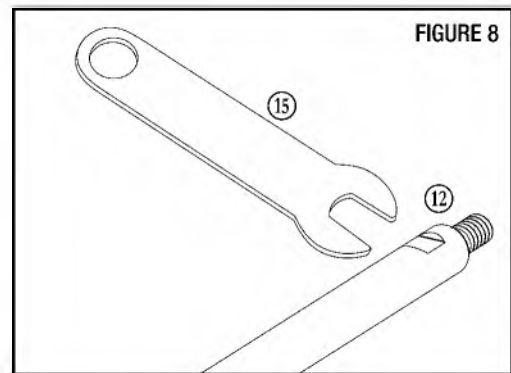

FIGURE 8
NOTE: Use the provided Wrench (15) to loosen the Extension Rods for disassembly. The Wrench fits on the cut out section of the Extension Rod. **FIGURE 8.**